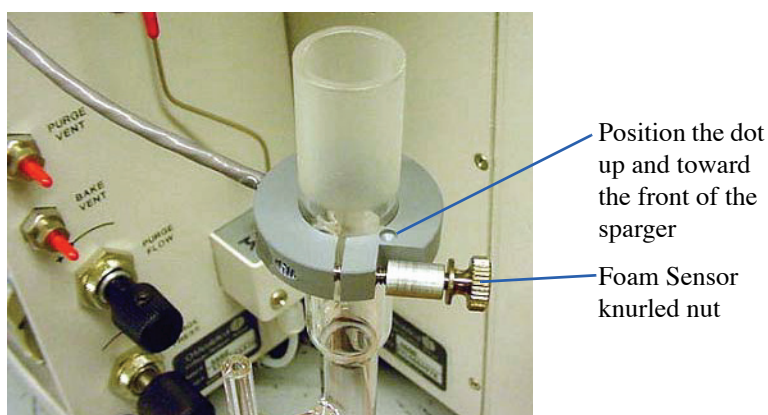

Figure 9.5. Positioning the Foam Sensor option on the glassware
12. Install the Foam Sensor ring by sliding it over the glassware with the smooth surface of the ring and dot facing up. If necessary, loosen the ring by unscrewing the standoff. Center the ring so the dot is located at the front of the sparger. Do not tighten the knurled nut of the Foam Sensor option (Figure 9.5).